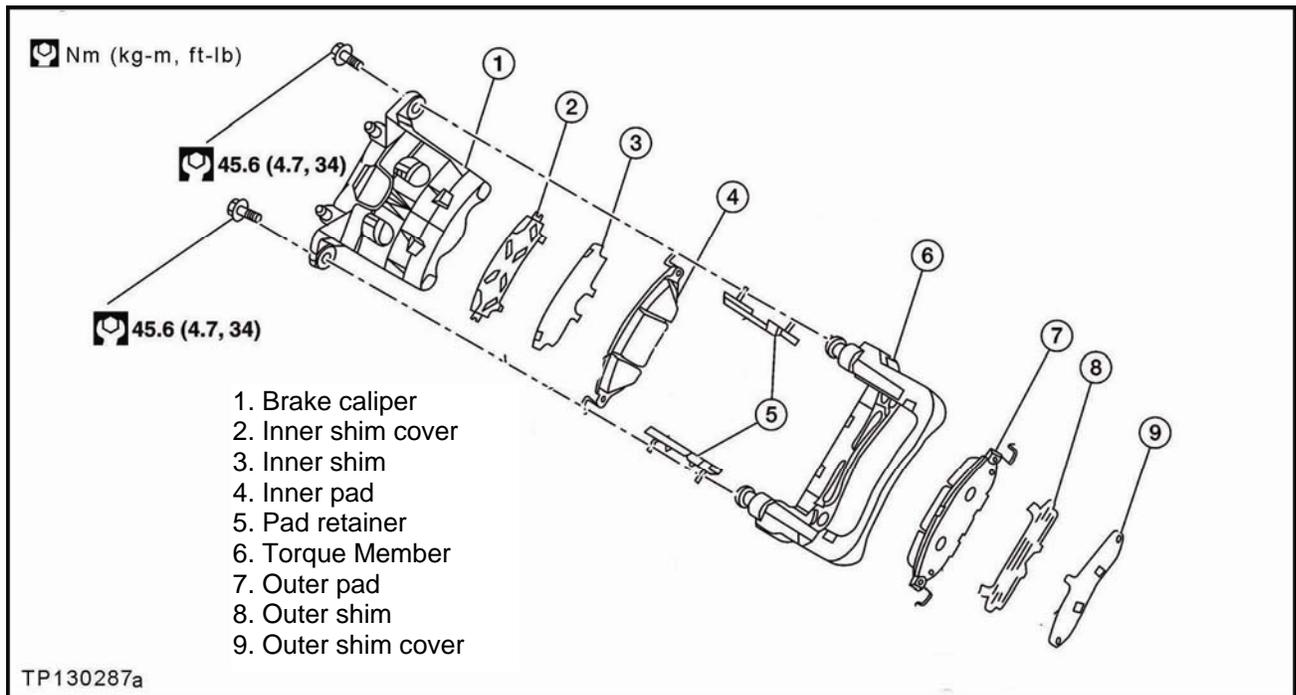

Figure 4
- Refer to Figure 4 as needed.